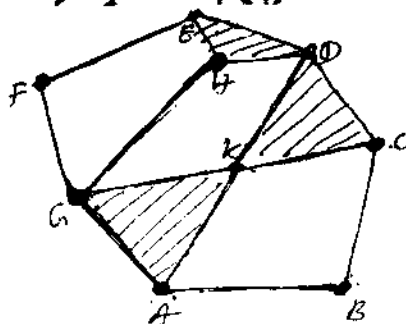

Fig.Q1(d)
- d. Use Grubler's criterion to determine the degrees of freedom of the following mechanism. Refer Fig.Q1(d).